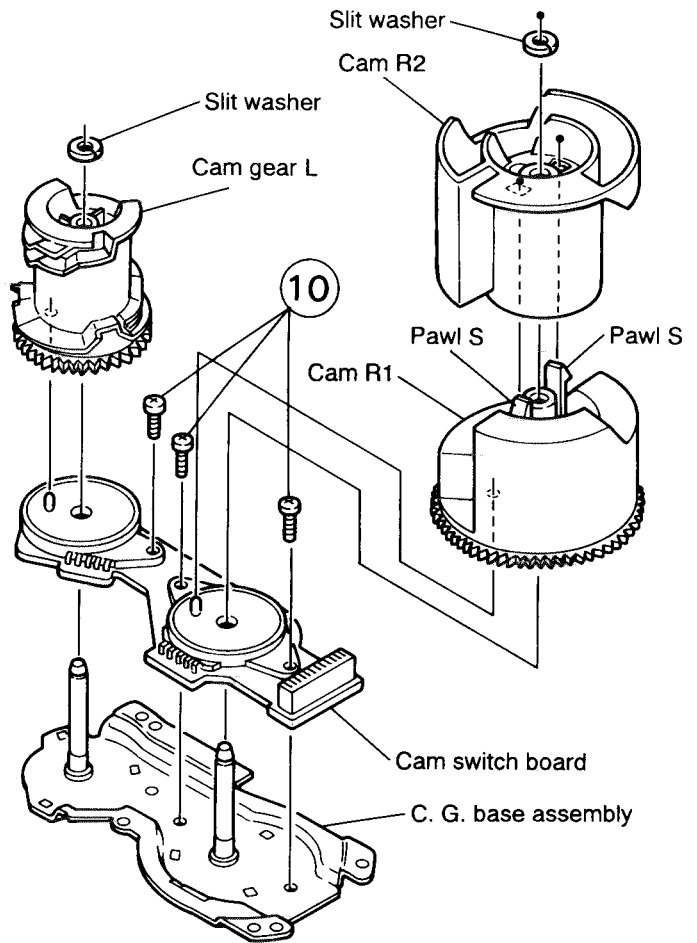

Fig. 2-32
**Removing the cams R1/R2 assembly and cam gear L (See Fig. 2-32)**
2. By removing the two pawls (S) fixing the cam R1, separate R2 from R1.
**Removing the C.G. base assembly (See Figs. 2-32 and 2-33)**